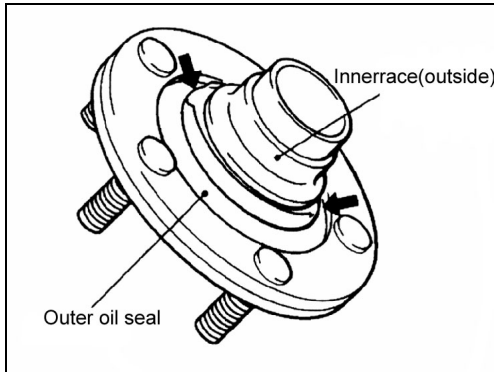

Fig.12-12
(2) Wheel bearing removal
- a. Crush the oil seal in two places so that the tabs of the special tool will be caught on the wheel bearing inner race (outside) (see Fig.12-12).